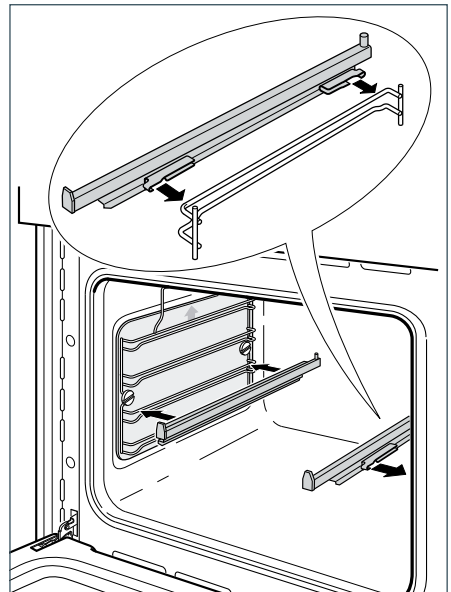

Fig.57 Refitting the sliding shelf supports
- 2 Fit the sliding shelf support onto the top wire of a rack and press (Fig. 57). You will hear a click as the safety locks clip over the wire.
- *the slides so that they run out towards the oven door, as shown in Fig. 57.*